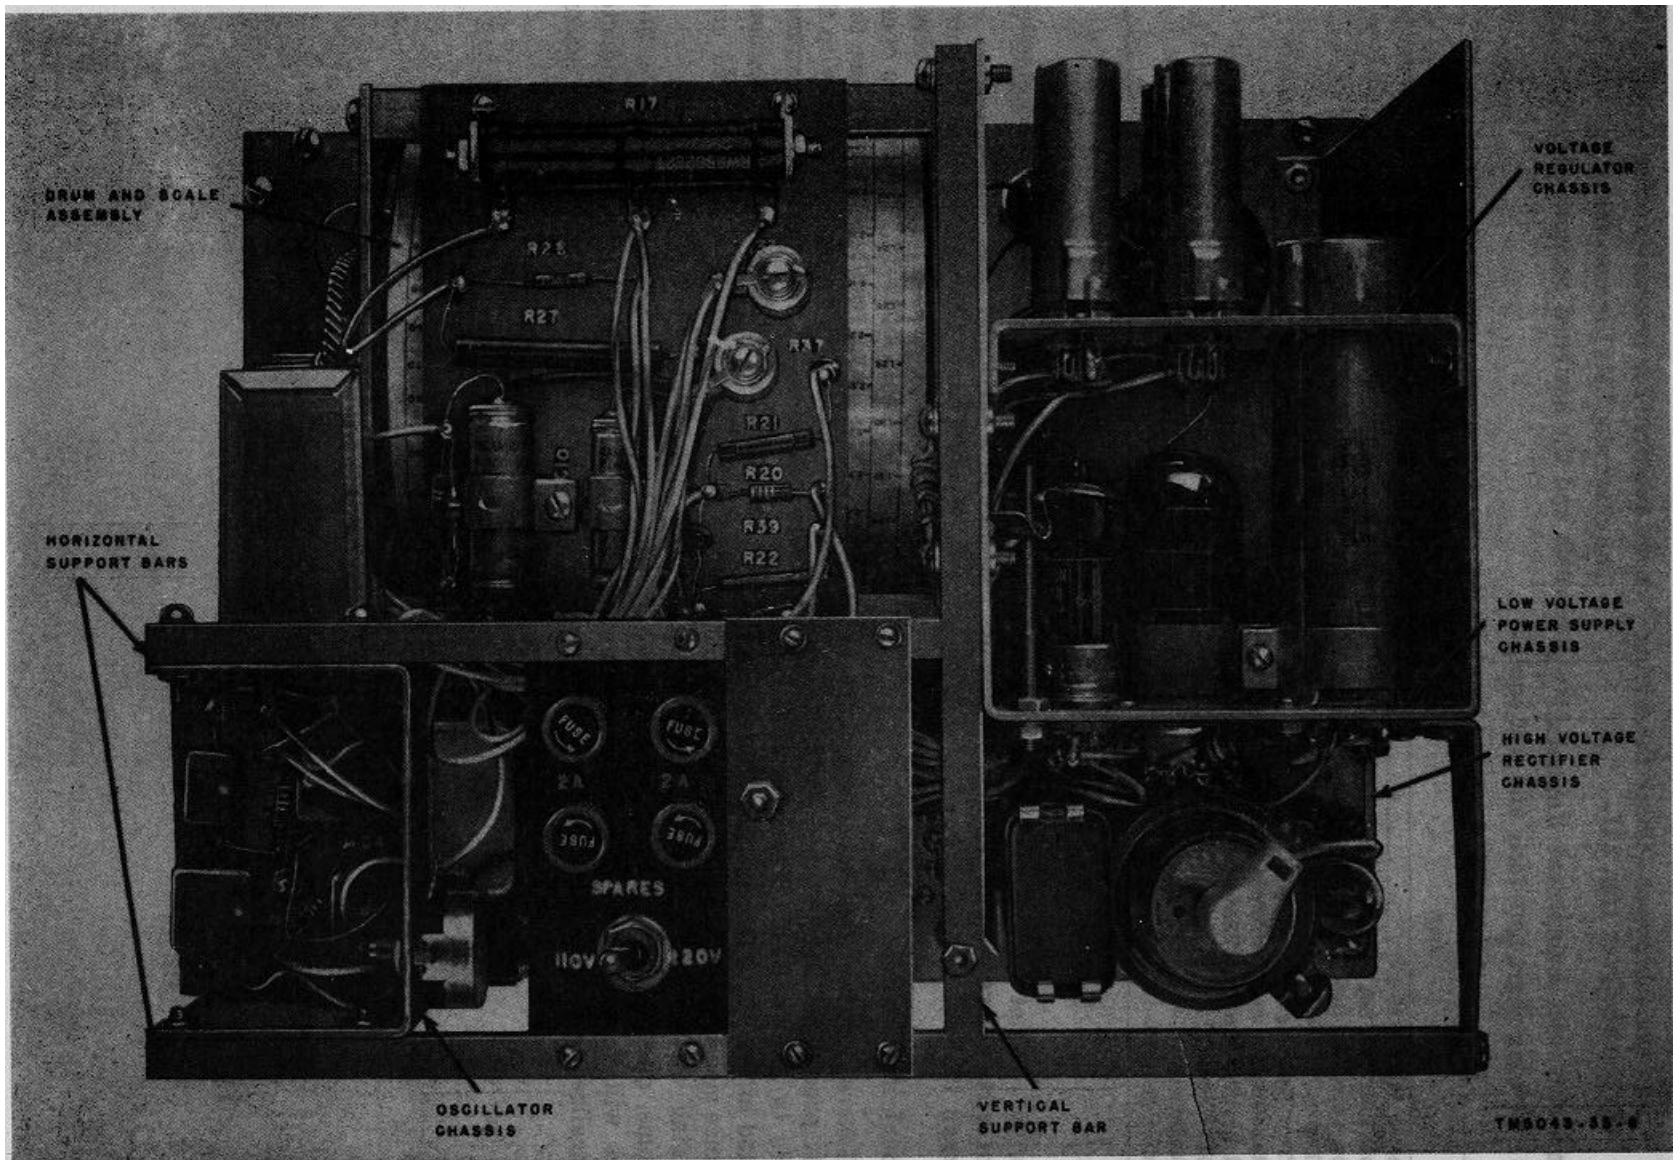

Figure 12. Analyzer ZM-3(*)/U, location of major assemblies.
b. Sectionalization (fig. 12). Analyzer ZM3(*)/U consists of five major assemblies: the drum and scale assembly, the high voltage rectifier chassis, the low voltage power supply chassis, the voltage regulator chassis, and the oscillator chassis. The first step in tracing trouble is to locate the assembly or assemblies at fault by the following methods: